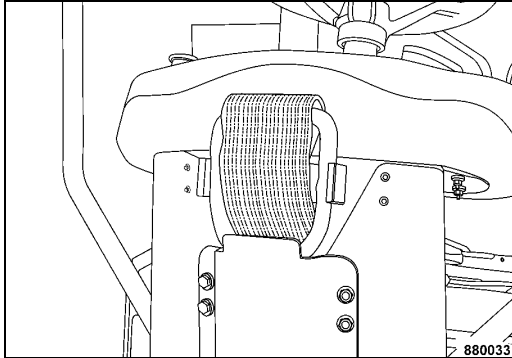

Fig. 114
- Reattach the lifting eye to the bracket after the lifting process (Fig. 114).